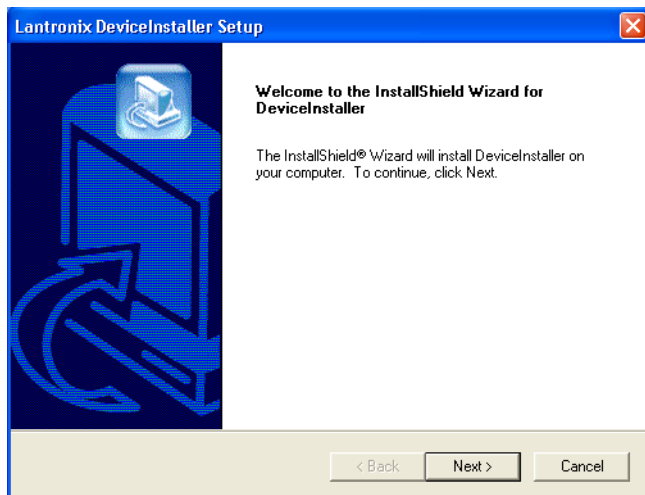
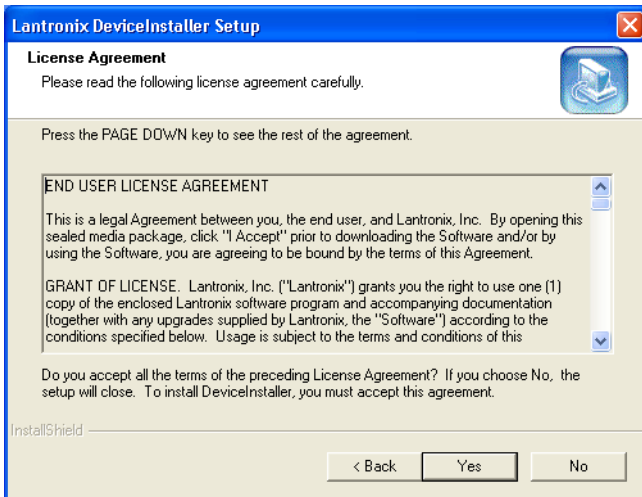

Figure 8: Lantronix DeviceInstaller Wizard
Figure 10: DeviceInstaller License Agreement
5. When the InstallShield Wizard is ready, the Welcome to the InstallShield Wizard window appears (see Figure 8 on page 10).
7. Continuing on from Figure 8 for a new installation, click on the  button to begin the installation process. The DeviceInstaller License Agreement window appears (see Figure 10 on page 11).